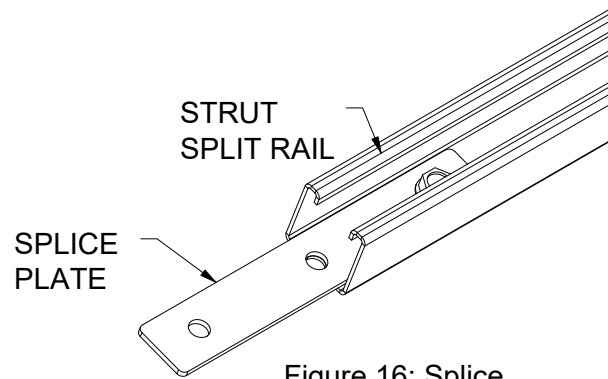

Figure 16: Splice Plate
1. Insert a Splice Plate halfway into one end of the Strut Rail, center the Chassis hole and bolt it with a *single 3/8"-16 x 1" serrated bolt and Figure 16 below.*